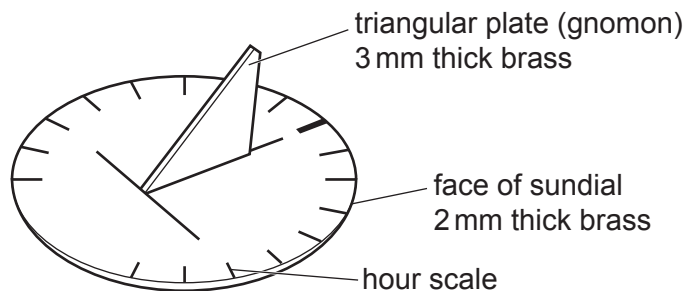

Fig. 4.1
- 4 Fig. 4.1 shows a sundial that could be made in a school workshop.